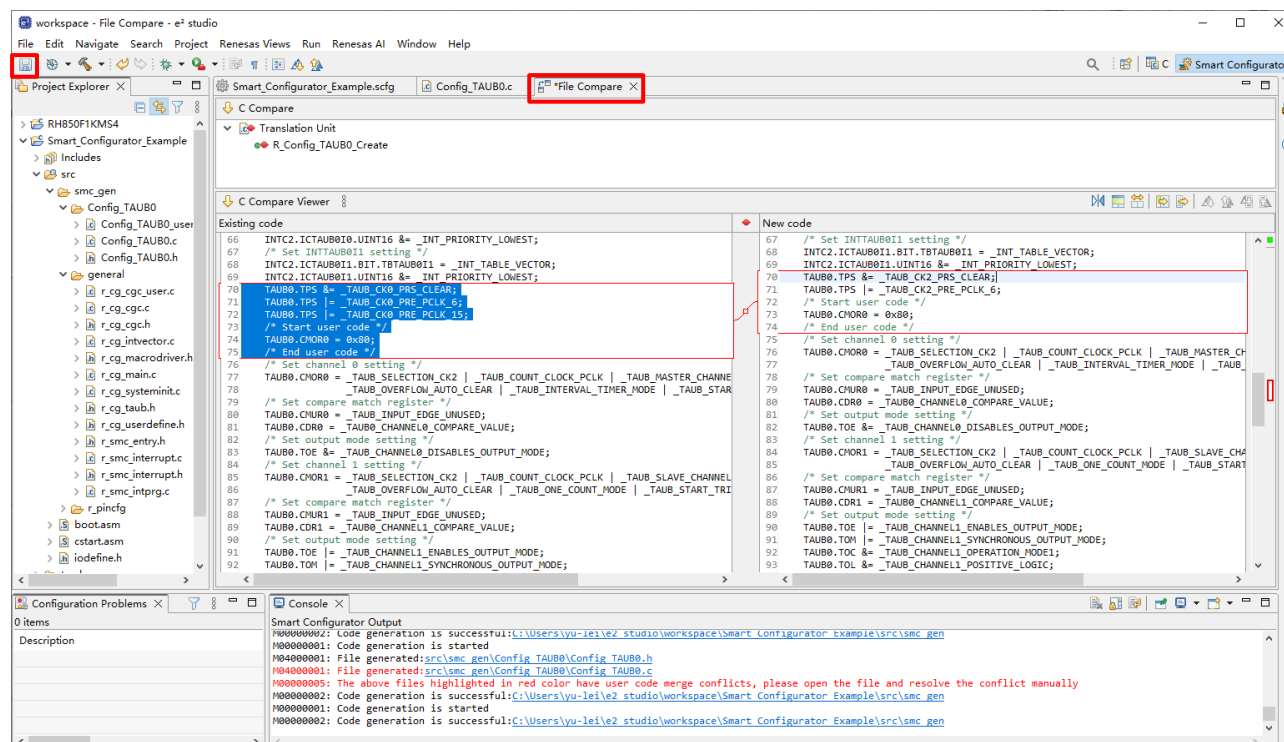

Figure 10-6 Code after Deleting and Saving
(4) Save the modified code (Figure 10-6).